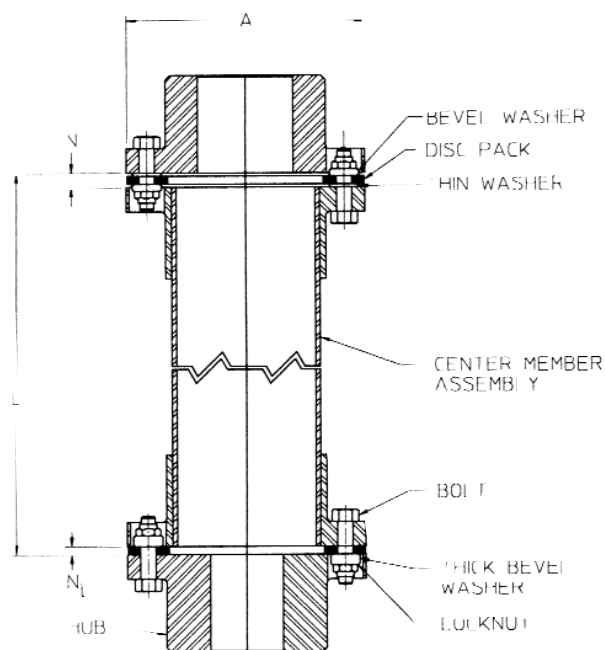

FIGURE 1
As a guide, maximum and minimum values for dimension "N" are given. These dimensions are suggested for initial installation. Additional capacity is available to compensate for thermal and structural movement. Maximum axial capacity values for these couplings are also given. See Table 1 and Figure 1.
C. Now install the disc pack into the top flex joint. See Figure 1. Slide the disc pack in between the two flanges lining up one hole in the pack with a bolt hole in the driver hub flange. Drop a bolt down through the flange bolt hole in the driver hub, washer (on size 262 and larger); disc pack, center member clearance hole, another washer, and secure with a locknut. **The beveled side of the washer should always be against the disc pack.**
D. Now install the disc pack into the bottom flex joint. It may be necessary to tighten up a little on the two “C” clamps to give enough clearance between the bottom two flanges to install the disc pack. Rotate the driven hub or center member so that the hub flange bolt holes line up with the center member flange clearance holes. See Figure 1. Slide the disc pack in between the two flanges, lining up one hole in the pack with a bolt hole in the center member flange. Drop a bolt down through the bolt hole in the center member flange, disc pack, hub flange clearance hole, thick washer (the beveled side of the washer should always be against the disc pack), and secure with a locknut. Remove the alignment bolt from the disc pack if used. Rotate the disc pack around until the rest of the holes line up with the center member flange bolt holes. Repeat above for the remaining center member to disc pack bolts. Snug up the locknuts. Do not torque the locknuts at this time.